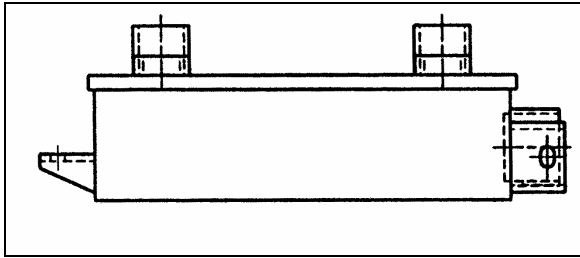

FIGURE 13: COOLER WITH RETARDER
18. Adjust the retarder pressure to 80 ± 3 psi with the air pressure regulator. For more information refer to Section 12, "BRAKE AND AIR SYSTEM", under heading "AIR PRESSURE REGULATOR". The air pressure regulator is located at back of engine compartment, on R.H. side (Fig. 13) or in the R.H. side rear service compartment.